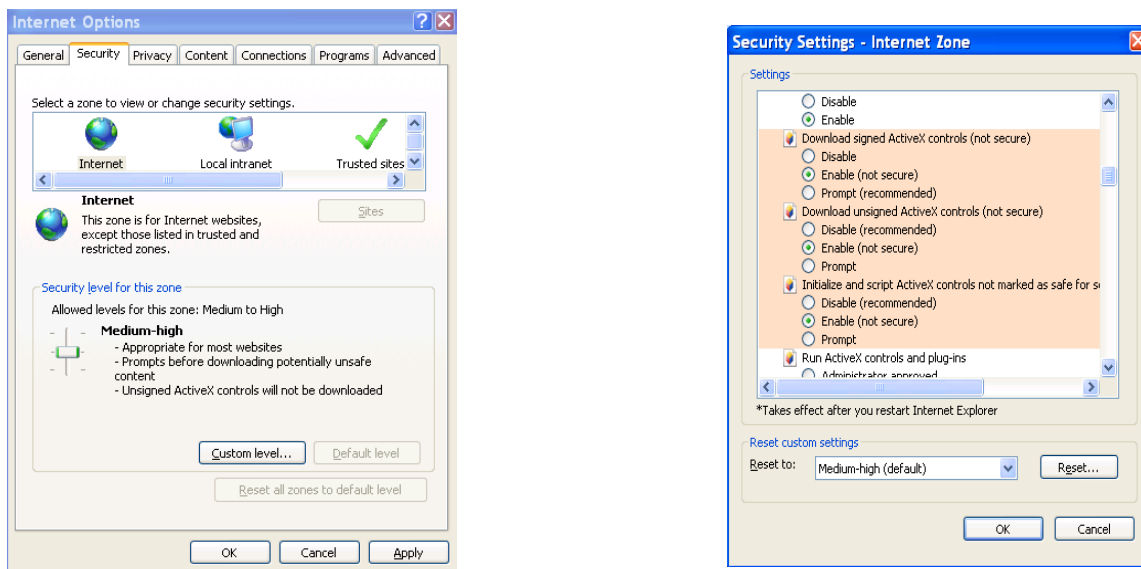

Figure 0-12
4. If the page does not appear on the computer screen, you need to lower your system safety setup. From Tools> Internet Options> Security, select Internet and then click Custom Level, you can enable ActiveX controls. See Figure 0-12 . Then open your browser and re-enter the domain name of the device.